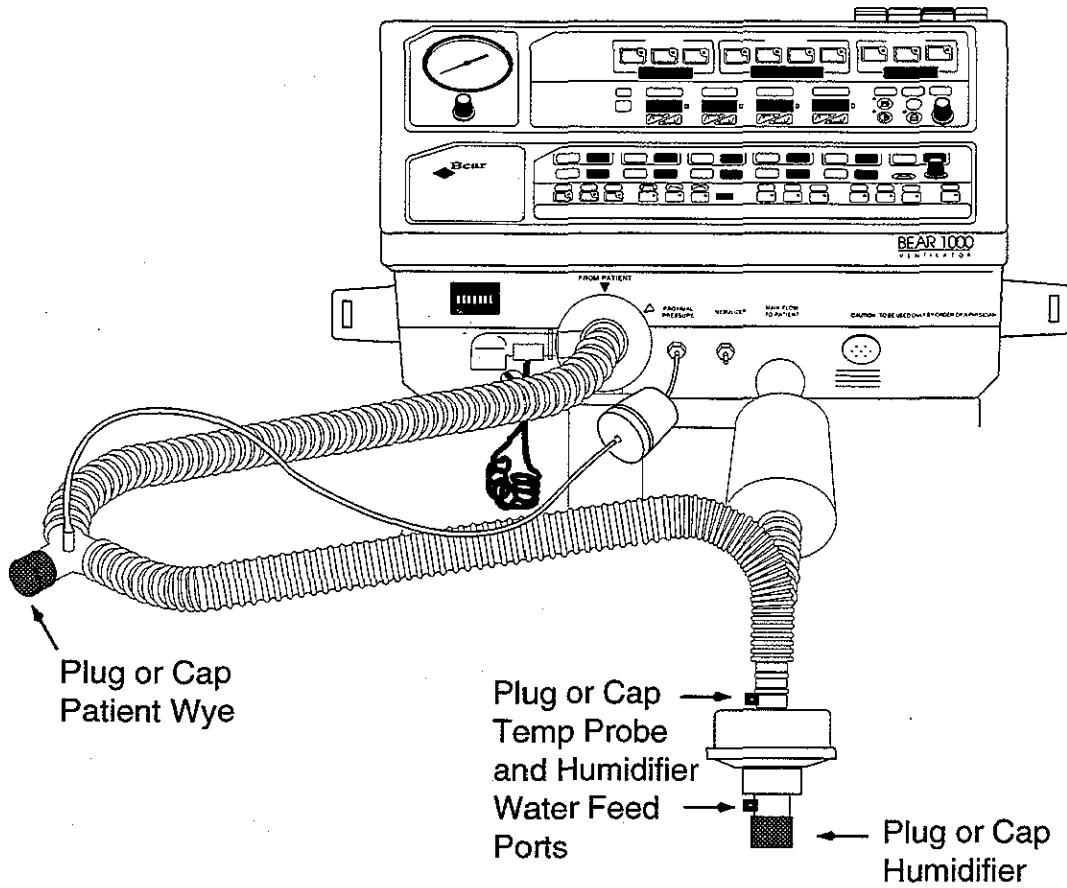

Figure 3-1
1. Connect the test circuits to the ventilator as shown in Figures 3-1 and 3-2.